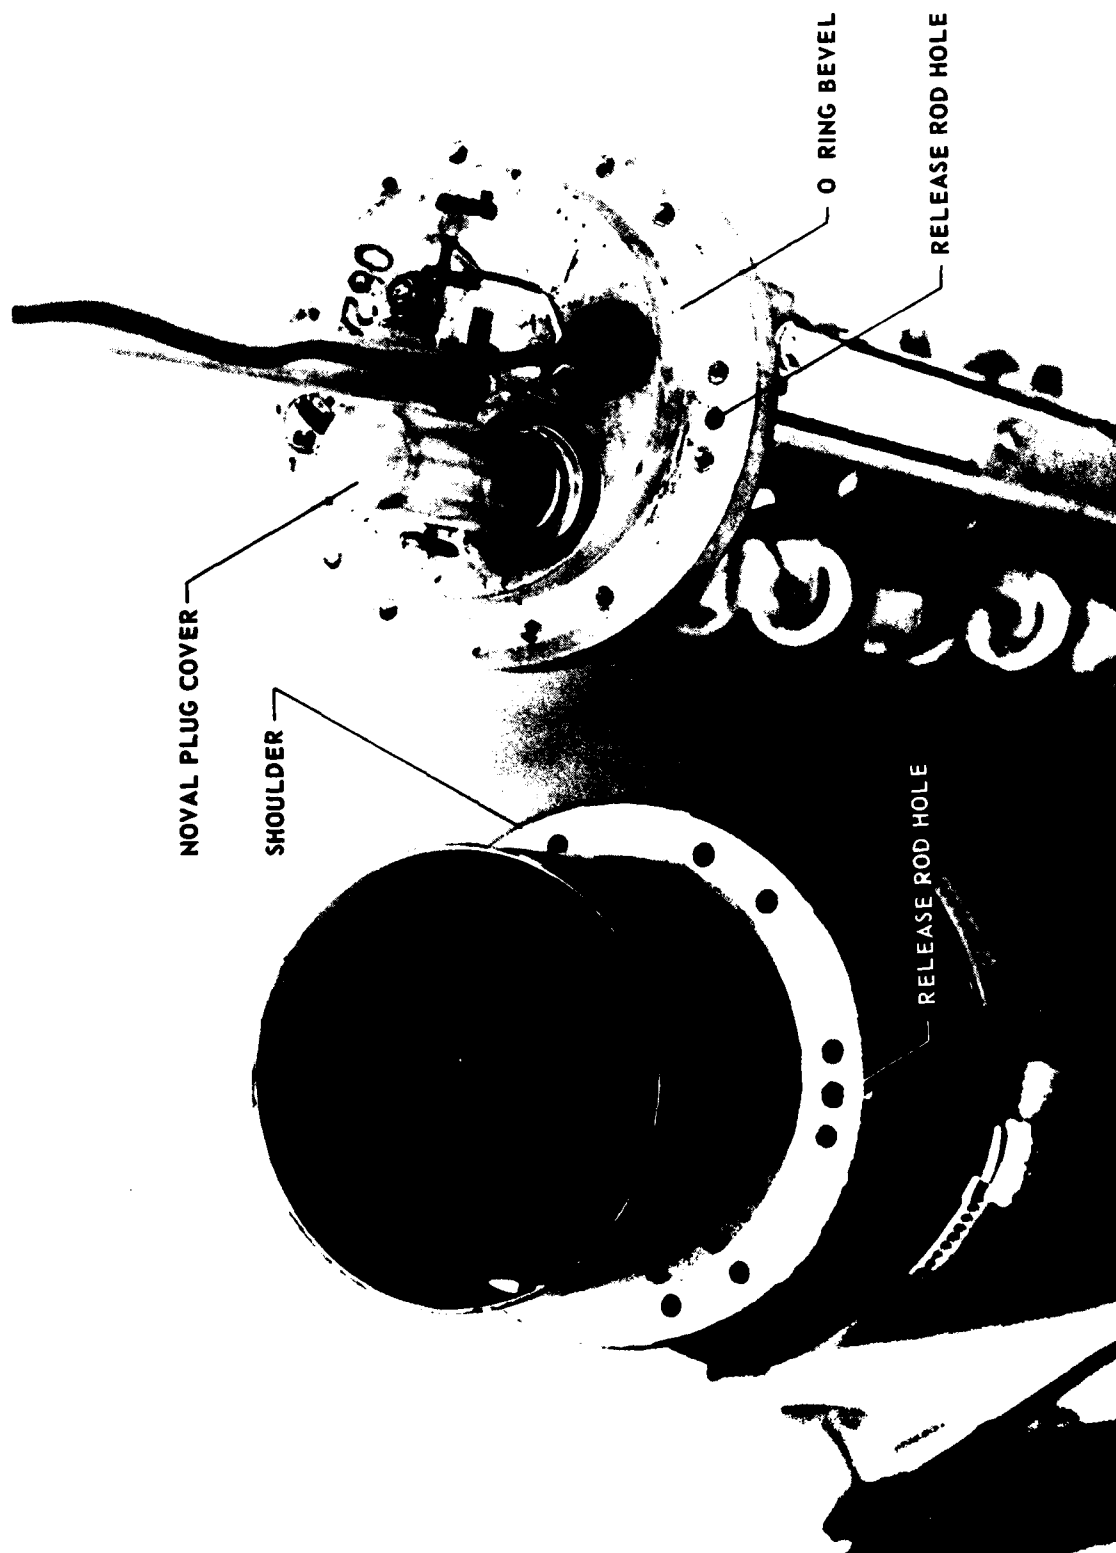

FIGURE 8
- g. Carefully place the case over the sonobuoy assembly. Make sure that the release rod hole in the case lines up with the release rod hole in the upper casting as shown in Fig. 8.